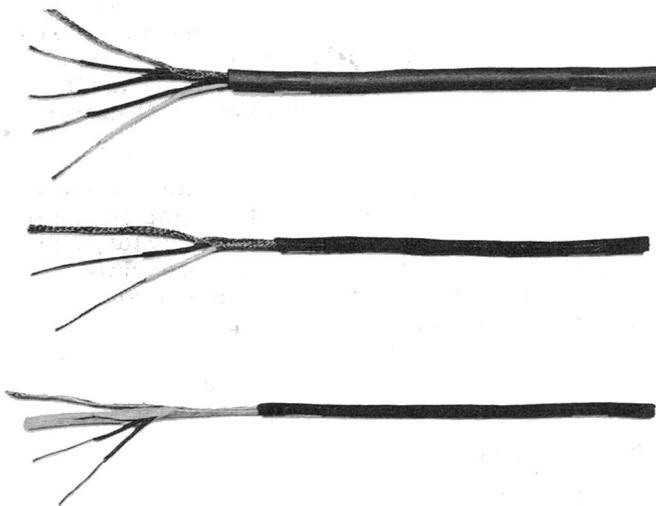

Figure 68 - GB-1204 Cordage, GBA-1102 Shielded Wire and SK Station Wire
4.14 GB-1204 cordage is four conductors 20-gauge stranded tinned copper wire. It has one pair shielded and one pair not shielded with a gray vinyl jacket overall. The shielded pair is color coded red and green and is for microphone inputs. The control pair is black and white. The outside diameter is .290". (Figure 68)
4.15 GBA-1102 shielded wire is a two-conductor 18-gauge solid copper wire with brown vinyl jacket over shield and is color coded red and green. The outside diameter is .222". It is used to cut down transmission loss where very long speaker leads must be run. (Figure 68)
4.16 The SK station wire is a two-conductor 20-gauge annealed copper-steel wire with brown or ivory thermoplastic jacket over shield. It is color coded red or green. The outside diameter is .216". (Figure 68)